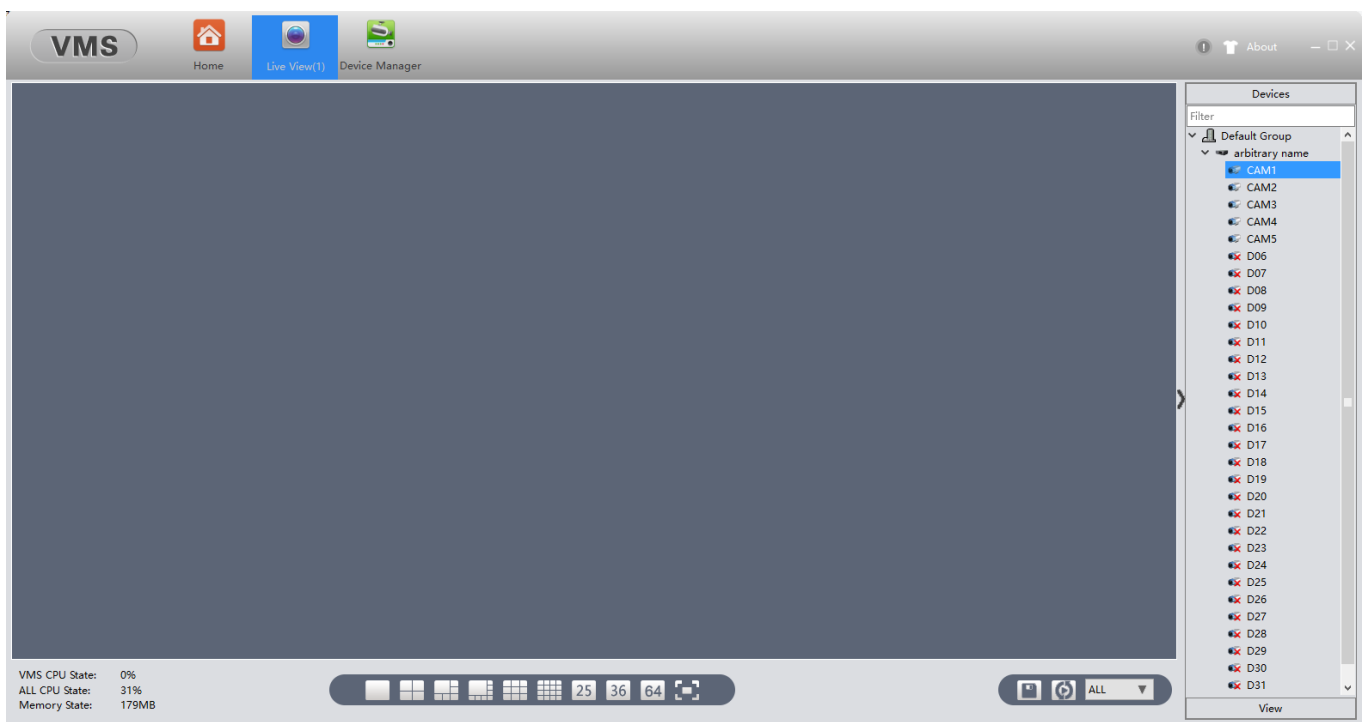

Figure 41. VMS software interface (Live View menu)
- Step 5: Double-click on the camera to display the video stream from the camera in the selected window (see Fig. 41);